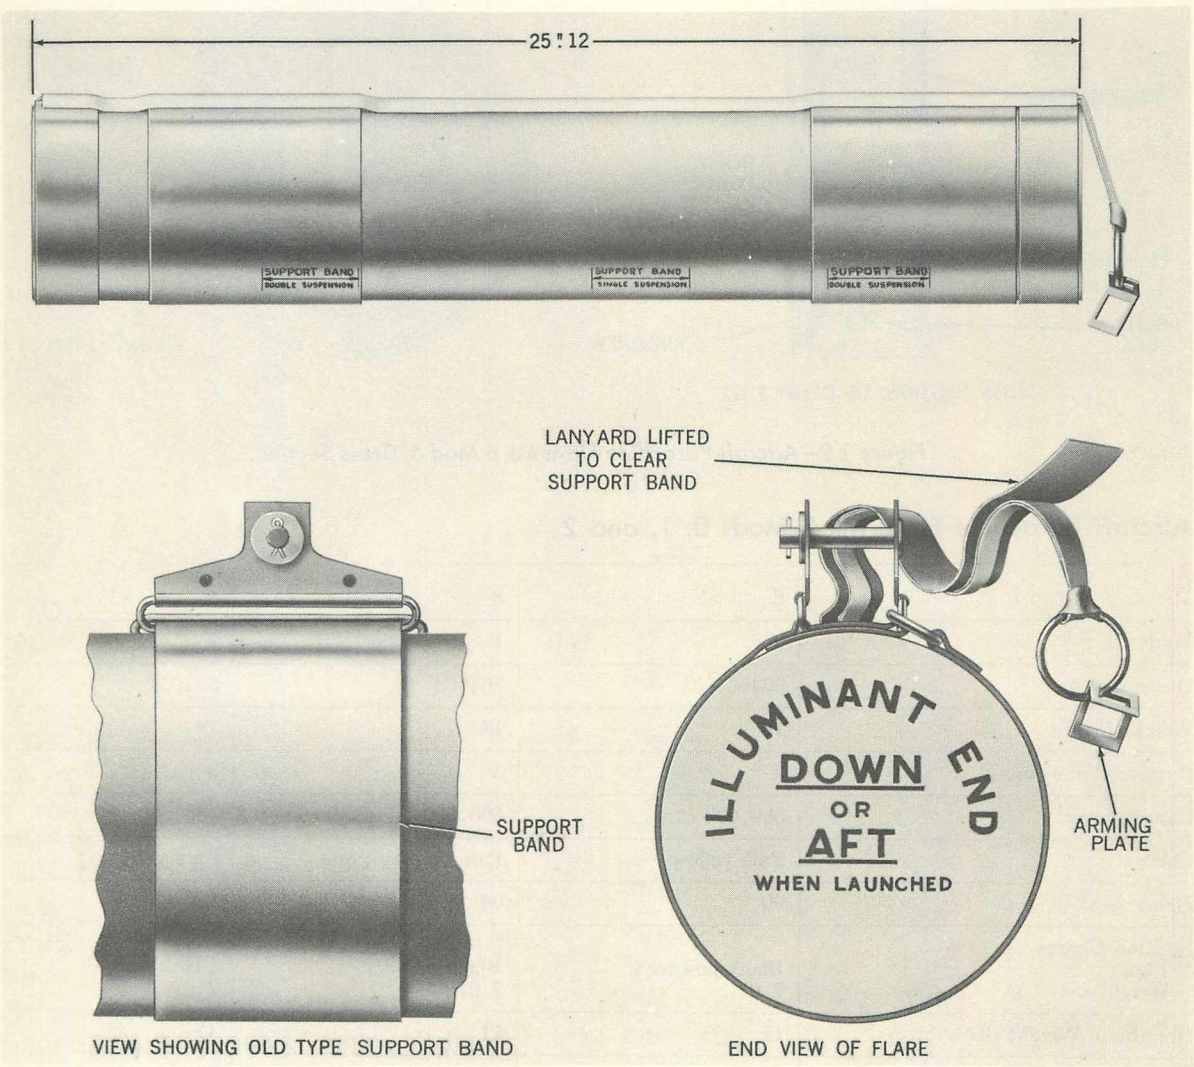

Figure 1.10—Aircraft Parachute Flare Mk 8 Mod 2, External View.
**Launching.** These flares are launched from external stations only. They are released from Bomb Racks Mk 50, Mk 51, or Mk 55, or a flare launching tube. Flares Mk 8 Mods 1 and 2 are now supplied with conventional one-lug-type suspension bands as shown in figure 1.10. This type of band will